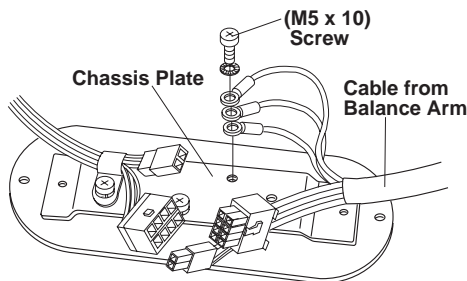

Fig.3-12A Attaching Grounded Wires on Bottom Cover
4. Secure the 3 wires (Grounded wires) together with ring terminals with the (M5 x 10mm) screw on the bottom cover. (**Fig.3-12A**)
Note : Three ring terminals should not protrude from a chassis plate. (**Fig.3-12A**)